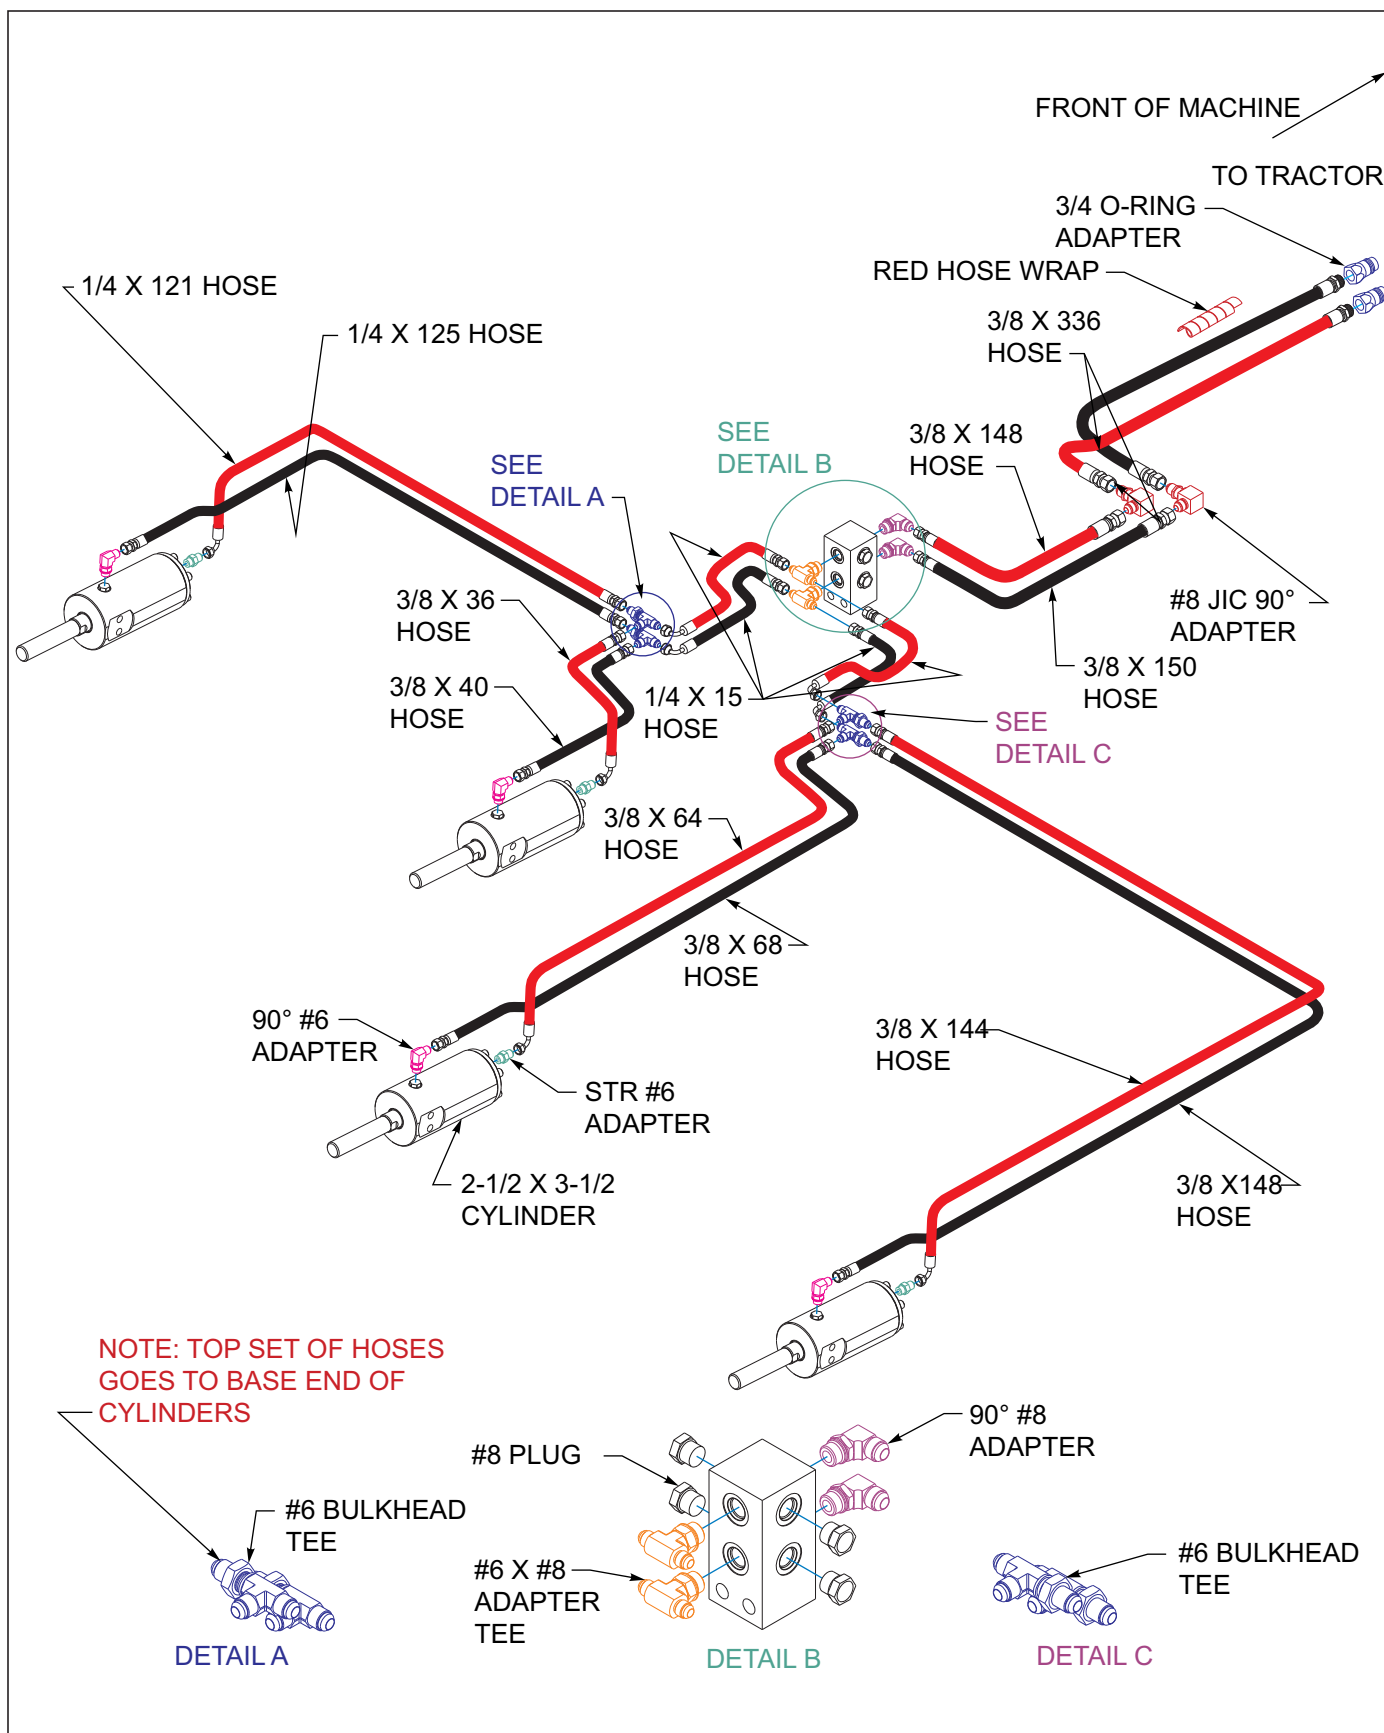

Figure 3-45: 3BCT/Chopper Hydraulic Installation 2411-06
15. **See Figures 3-45** for proper hydraulic installation.